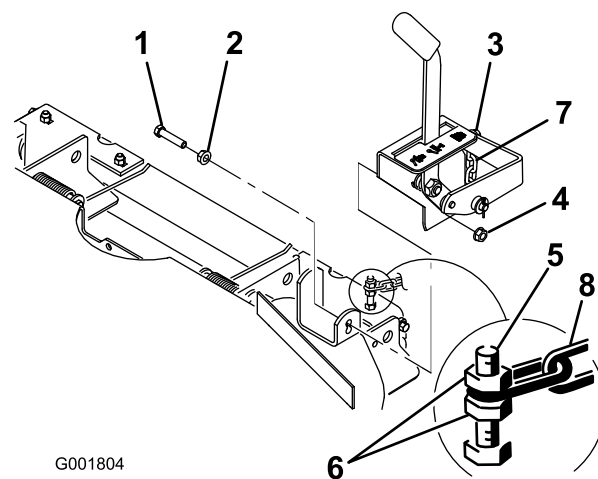

Figure 3
- Install the control lever assembly onto the bracket you removed the chain from, securing it and the deck mounting chain with a bolt (7/16 x 2 inches) and 2 flange nuts (7/16 inch) (Figure 3).
- Thread a locknut (3/8 inch) onto the bolt on the left of the roller assembly (Figure 3).
securing the chain between the locknuts near the top of the bolt (Figure 3).